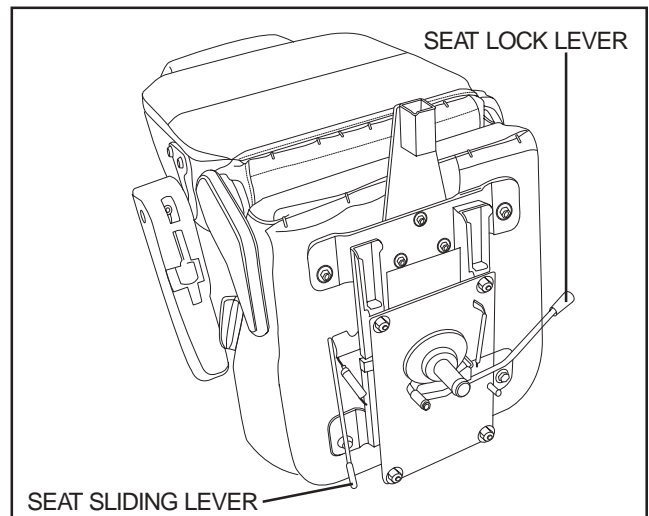

Figure 12. Seat Adjustment
1. Push forward on the seat lock lever to unlock the seat. See figure 12.
You can reposition the PMV's seat forward or rearward to adjust the distance between the seat and the tiller. See figure 12.